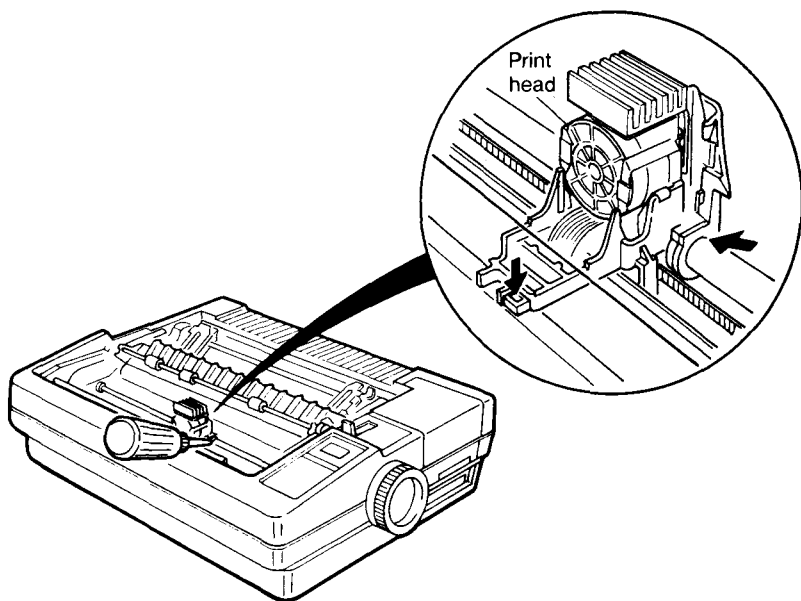

Figure 31. Lubricating the Print Head.
4. Lubricate the two points in the printer with a high-grade oil (such as Launa 40 or a high-grade sewing machine oil), as shown in Figure 31.